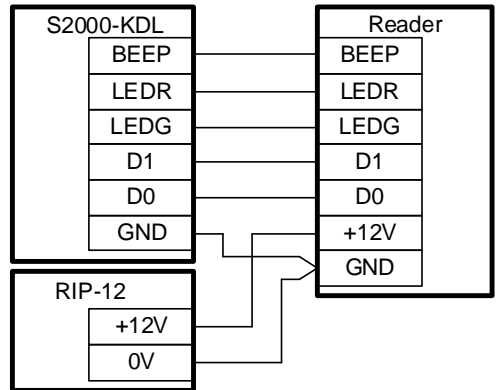

Figure 7. Connection of Wiegand or ABA Track-II Interface Card Reader
4.4.5 The connection of Wiegand-interface readers are shown in Figure 7.